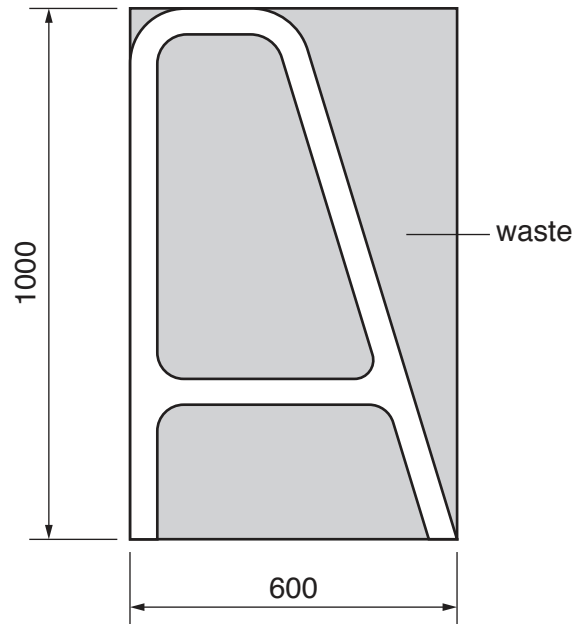

Fig. 14
- (e) Fig. 14 shows the shape of one end frame marked out on a sheet of manufactured board. The end frame will be cut out of the sheet of manufactured board rather than using separate legs and rails.